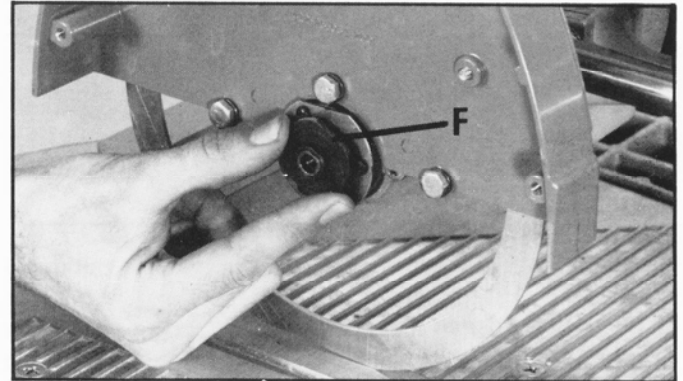

Fig. 52
5. To install blade, make sure the inside blade flange (F) Fig. 52, is positioned on the saw arbor with the flat side of the flange in the out position.